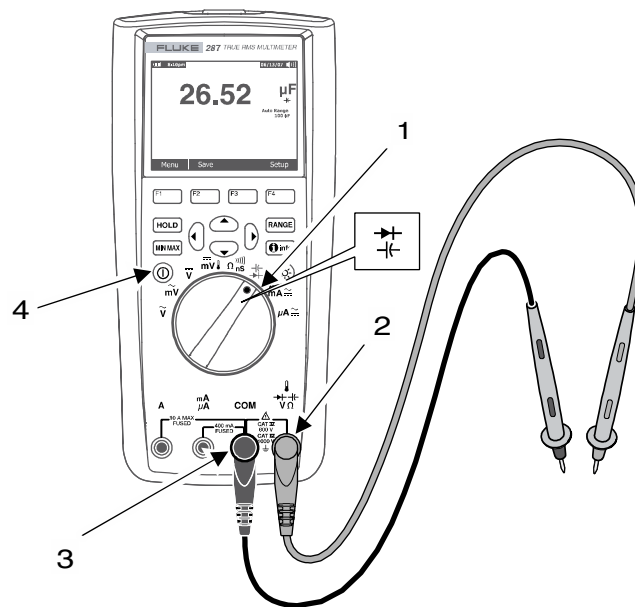

Figure 13. Capacitance Mode
1. Insert the black test lead into the COM terminal (Figure 13., Item 3).
2. Insert the red test lead into the volts/resistance terminal (Figure 13., Item 2).
3. Press the On/Off button (Figure 13., Item 4) to turn the multimeter on.
4. Position the rotary switch (Figure 13., Item 1) to the diode/capacitance position.
11. To exit the capacitance mode, position the rotary switch (Figure 13., Item 1) to any other mode.